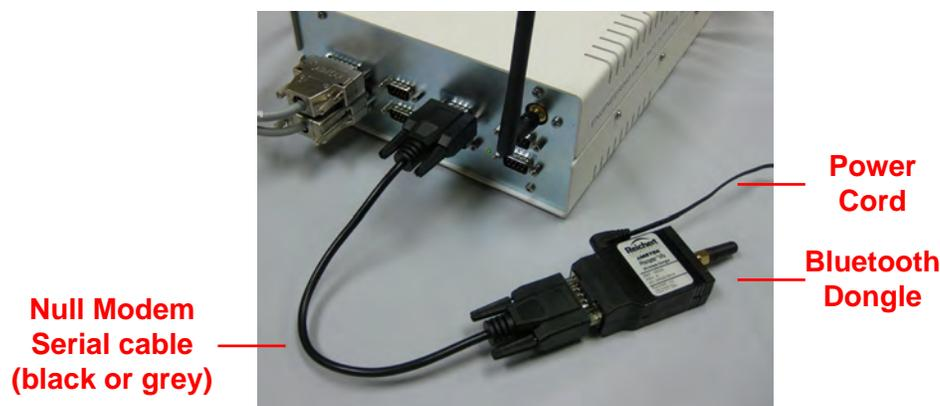

Figure IS-13, Bluetooth Dongle to Central Unit
8. Provide power to the Bluetooth dongle using the power adapter provided. (Please refer to Figure IS-13.) The LED light should illuminate green.
10. Connect the Bluetooth dongle to the appropriate Central Unit port, using the provided null modem serial cable. (Please refer to Figure IS-13.)